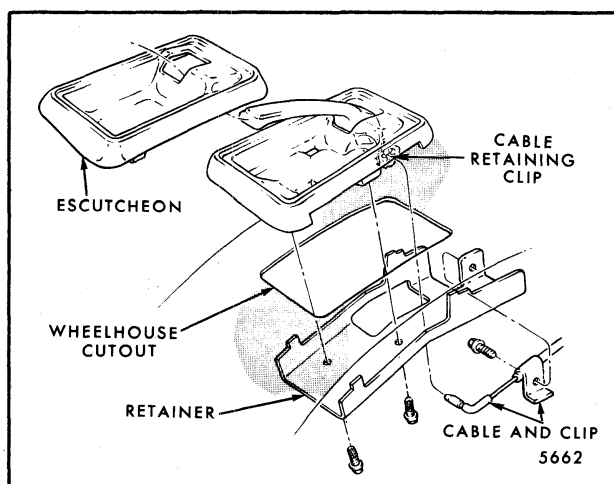

Fig. 9-106-Third Seat Back Lock Remote Control Handle Assembly
2. If removing lock remote control handle, remove anti-rotation clip screw and disengage end of cable from retaining clip on handle (Fig. 9-106).
- retainer to quarter trim panel (Fig. 9-106) and remove handle assembly.